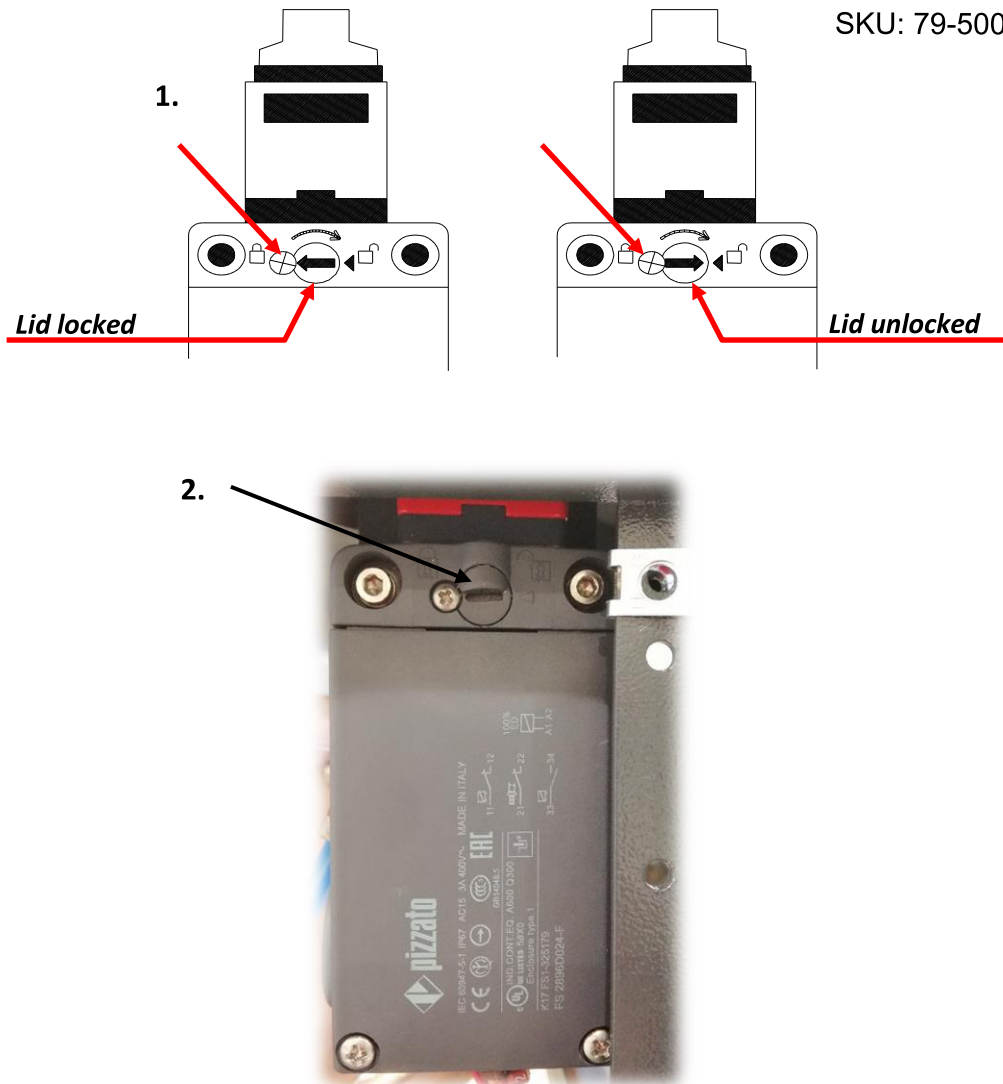

Fig. 2.21 Safety device to lock the lid
- Loosen the crossed screw (1 of **Fig.2.21**).
- Turn the screw 180° (2 of **Fig.2.21**) with an appropriate screw driver so that the arrows match each other and unlock the lock.
- Turn the screw 180° (2 of **Fig.2.21**) to bring back into use the safety device and then lock it again screwing the crossed screw.